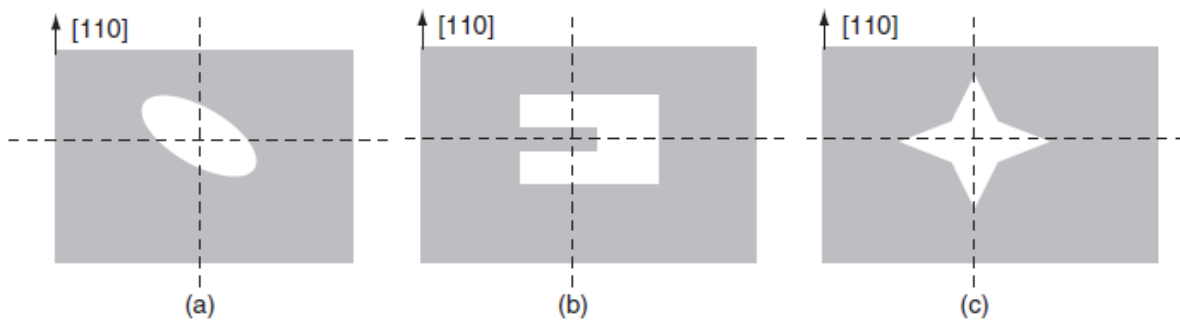

Fig. 2.2 KOH is the etchant in (a) and (b); HNA is used in (c). The masks are aligned as shown.
2.9 The etch windows shown in Fig. 2.2 are used in (100) silicon. What will be the substrate cross sections (along lines) after a complete etch in each case? Sketch the top view after the masking layer is removed. In Fig. 2.2(a), the length of the major axis (oriented at  $45^\circ$  to the  $[110]$  direction) of the ellipse is  $100 \mu\text{m}$ . In Fig. 2.2(b) a projection of  $50 \mu\text{m} \times 5 \mu\text{m}$  in a square area of  $150 \mu\text{m} \times 150 \mu\text{m}$  is used.